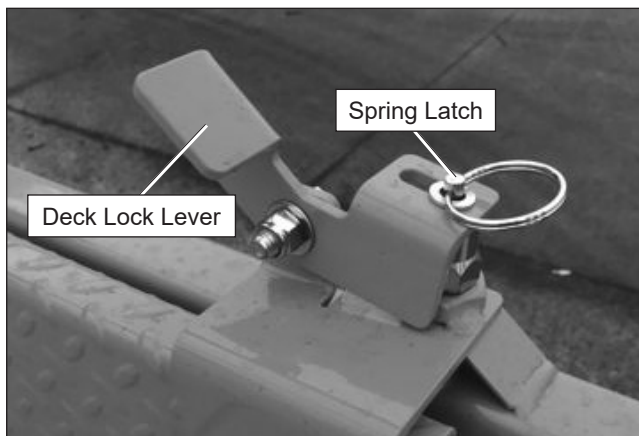

Figure 8.19 – Platform Extension Deck Lock
2. While facing the front of the platform, grasp the platform extension handles and raise them. Step on the deck lock lever (refer to Figure 8.19) to release the spring latch and push the extension deck forward to verify the deck locks into the mid and front positions. Fully lower the handles and ensure they are locked in their stowed position.
6. While facing the front of the platform, grasp the platform extension handles and raise them. Step on the deck lock lever (refer to Figure 8.19) to release the spring latch pin and pull the extension deck backward